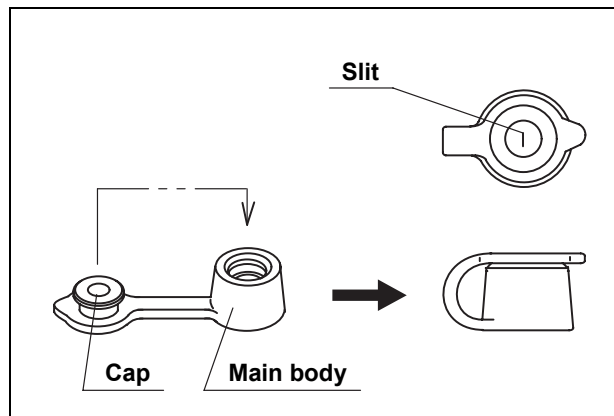

Figure 3.9
2. Attach the cap to the main body (see Figure 3.9).